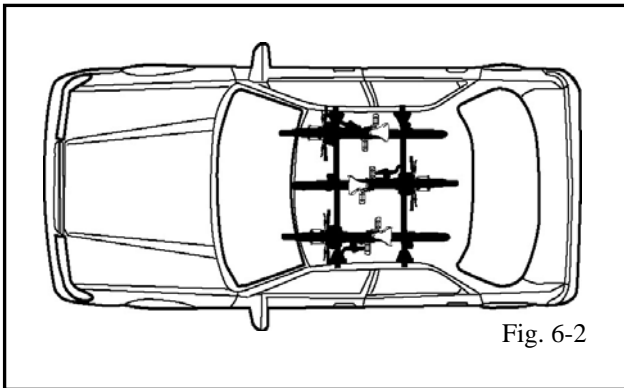

Fig. 6-2
- (b) When more than two bike racks are fitted the bike rack positions alternate. (Fig. 6-2)